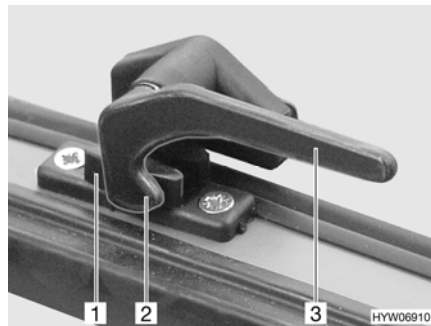

Fig. 68 Catch lever in "closed" position
- Turn the catch lever (Fig. 68,3) a quarter turn towards the centre of the window.
- Turn the catch lever (Fig. 68,3) a quarter turn towards the window frame. The locking catch (Fig. 68,2) is located on the inside of the window catch (Fig. 68,1).
- "Firmly closed" (Fig. 68)